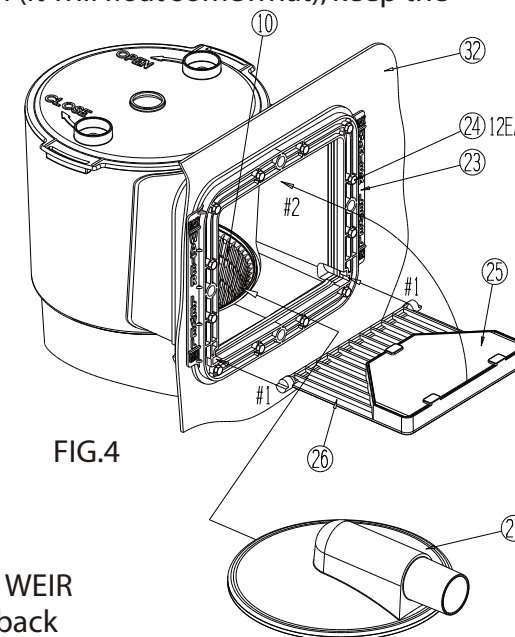

FIG.4
E. Place the Filter Cartridge (9) and the Strainer Basket (10) back into the Skimmer Canister (8). It is important that the Filter Cartridge (9) slips over the Pump Retaining Nut (7) and seals at the bottom of the canister so that the Strainer Basket (10) will seat in it's groove inside the canister. See Fig. 4. Place the Lock Top (11) on top of the Skimmer Canister (8) and lock it in place by turning it clockwise until it is locked. Push the Weir Foam Pad (25) into the Weir (26) and under the tabs, to hold it in place. Take the Weir (26) and slide it into the grooves from inside the pool. See Fig. 4. Once the weir is pushed inside the grooves, flip it over as shown by the Arrow #2 in Fig. 4, to lock it in place. NOTE: The weir can ONLY be pushed into the grooves as shown by Arrows #1 in Fig. 4, by holding it horizontal. Be sure the weir moves freely through the opening, if not carefully trim away any obstructing material to allow the weir to move freely.
F. After the pool is filled, SEE (WATER LEVEL FIG. 4) check the hose connections and fittings to make sure there is no water leakage. If any leaks are found, see #4 in the Trouble Shooting guide on page #8.
B. VACUUM ADAPTER USE; allows you to vacuum your pool, see part # 27 FIG.4 The VACUUM ADAPTER is included with the SKIMMER unit, it will be necessary for you to purchase a Vacuum, Vacuum handle, and a Vacuum hose from your local pool supply retailer, also your home improvement centers, and large retail stores sometime carry these as seasonal items and they range from economy to deluxe.
C. To install the VACUUM ADAPTER turn off your pump, remove the WEIR part # 26 FIG. 4, see the section on WEIR installation page 4 (step E) and reverse the process by lowering the WEIR and sliding it out through the openings in the FACE PLATE part # 23 shown in FIG 4. Place the WEIR in a safe place because you need to reinstall it after vacuuming so that your skimmer operates properly.